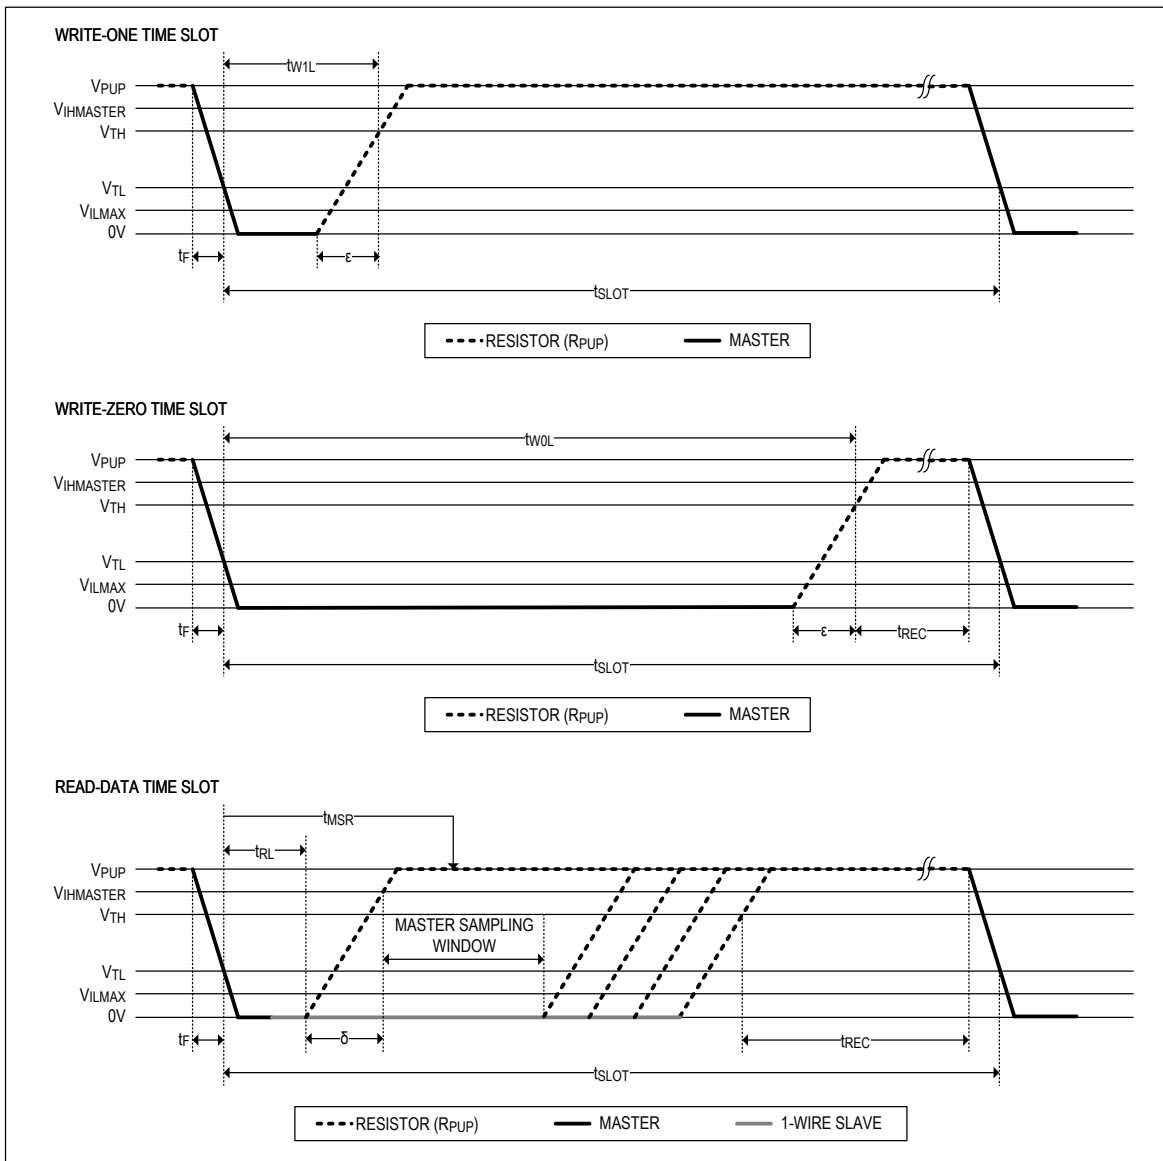

Figure 6. 1-Wire Read/Write Timing Diagrams
- Note 18:** ϵ in Figure 6 represents the time required for the pullup circuitry to pull the voltage on IO up from V_{IL} to V_{TH} . The actual maximum duration for the master to pull the line low is $t_{W1LMAX} + t_F - \epsilon$ and $t_{W0LMAX} + t_F - \epsilon$, respectively.
- Note 19:** δ in Figure 6 represents the time required for the pullup circuitry to pull the voltage on IO up from V_{IL} to the input-high threshold of the bus master. The actual maximum duration for the master to pull the line low is $t_{RLMAX} + t_F$.
Data communication on the 1-Wire bus takes place in time slots that carry a single bit each. Write time slots transport data from 1-Wire master to a connected slave. Read time slots transfer data from slave to the 1-Wire master. Figure 6 illustrates the definitions of the write and read time slots.